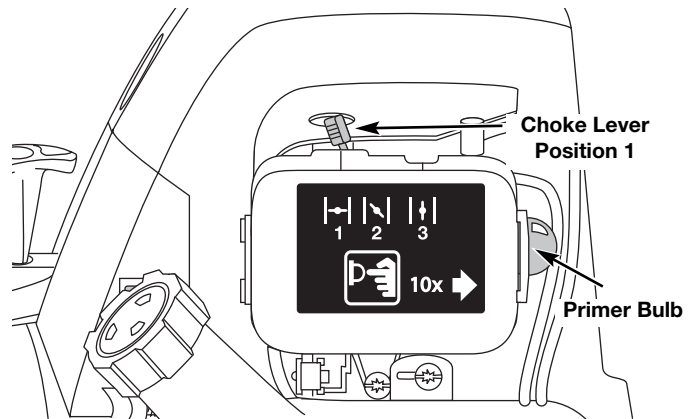

Fig. 7
4. Fully press and release the primer bulb 10 times, slowly. Some amount of fuel should be visible in the primer bulb and fuel lines (Fig. 7). If you can't see fuel in the bulb, press and release the bulb as many times as it takes before you can see fuel in it.
5. Place the choke lever in Position 1 (Fig. 7).